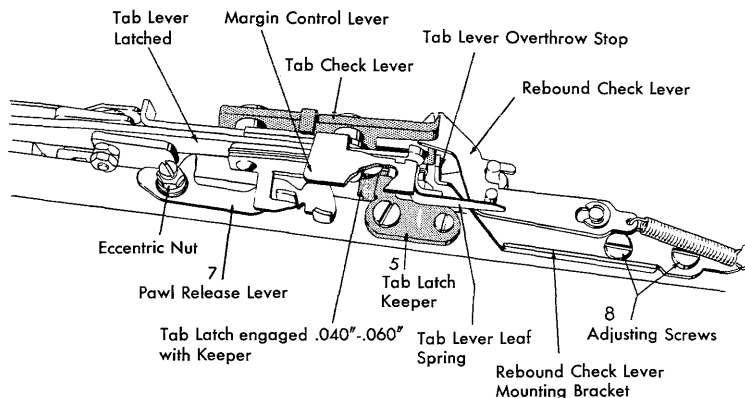

Figure 44. Tab Latch Keeper Adjustment
when the tab lever is held out by the keeper (Figure 44).
the pawl release lever for $\frac{1}{4}$ " escapement pawl clearance during tabulation (Figure 44). Observe this clearance by latching the tab lever by hand, preventing carriage movement, and sighting along the escapement rack.
9. Form the tab lever extension so that, with the tab cam at its high point, the extension finger has .000"-.005" (paper clearance) with the upright stop on the rebound check lever bracket (Figure 44).